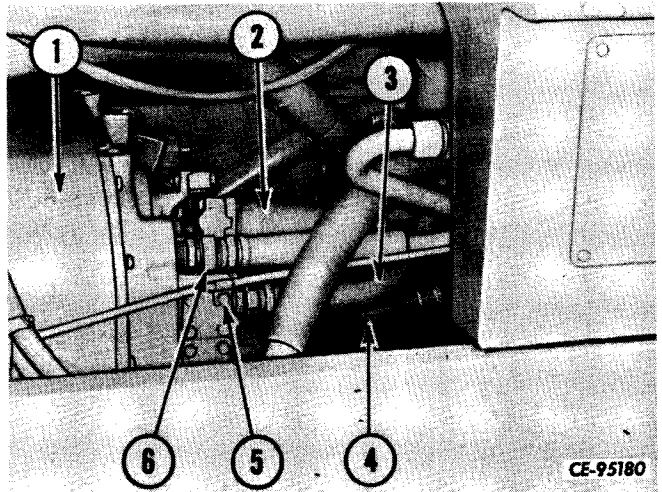

Figure 4-15
Disconnect the transmission to torque converter driveshaft (2, Fig. 4-15) from the transmission (1). Disconnect filter to transmission line (6) from transmission. Disconnect valve to torque converter line (3) and valve to cooler